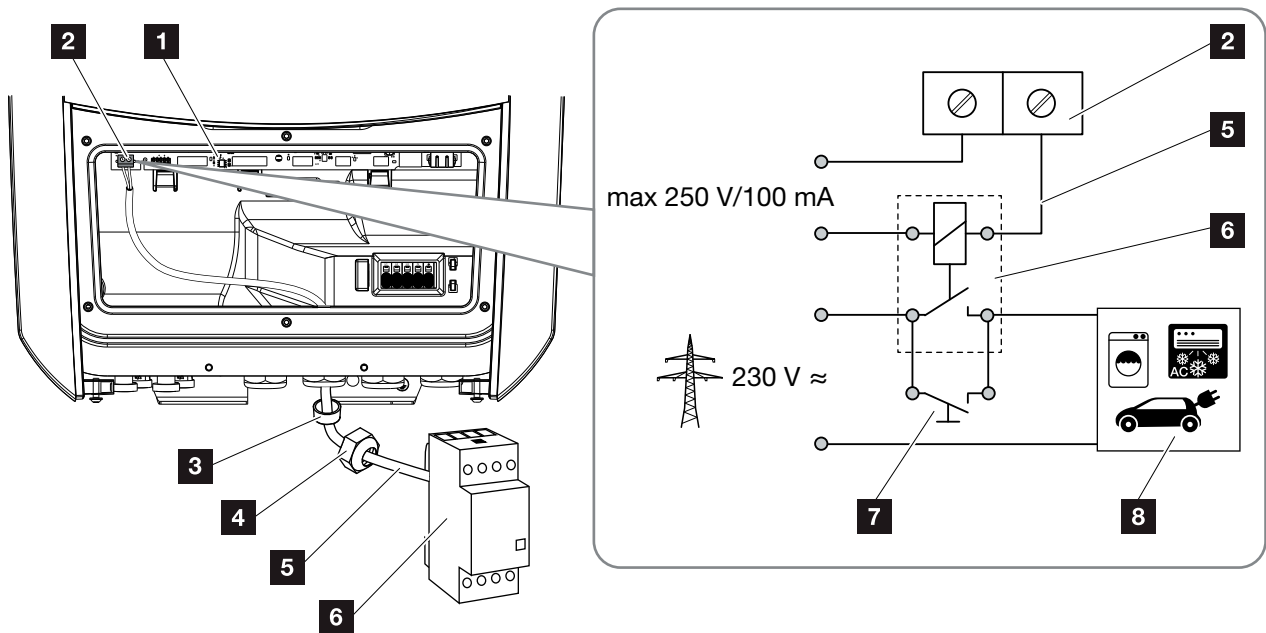

Fig. 55: Electrical connection for self-consumption
2. Correctly connect load relay to the terminal for self-consumption on the Smart Communication Board. **Fig. 55, It. 2**